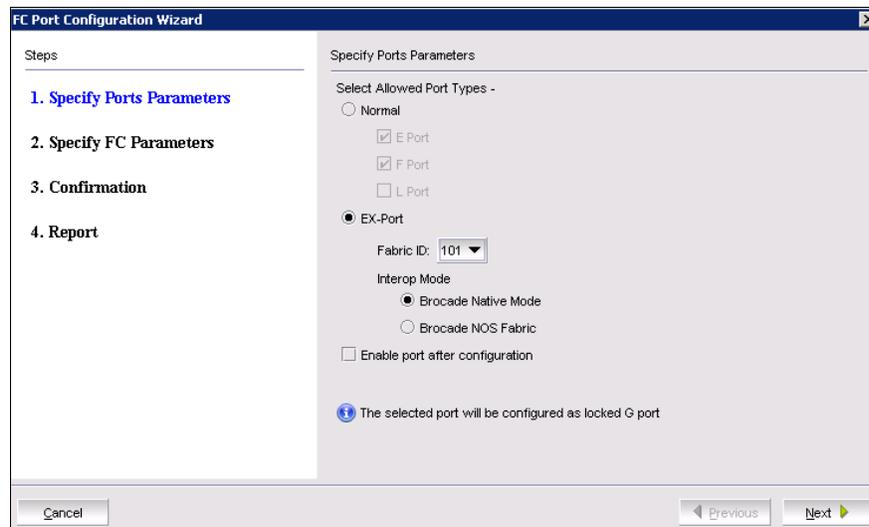

Figure 6-46 Assign fabric ID for EX port on site B
- Repeat steps 1 - 3 to configure EX ports on the logic switch ITSO_7840_SiteB_base_FID50. Make sure that the fabric ID that you configure on the EX port should be different from the fabric ID (100) of the EX port on the base logical switch ITSO_7840_SiteA_base_FID50. Here we assign 101 to it (Figure 6-46).